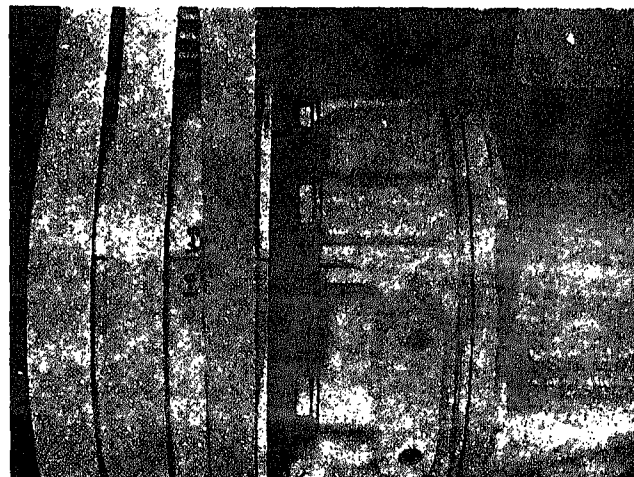

Fig. 5-18. Valve set marks
2. Bar engine in direction of rotation until No. 1 VS mark appears. See Fig. 5-18 for location of valve set marks. In this position, both intake and exhaust valves must be closed for cylinder No. 1; if not, advance crankshaft one revolution.